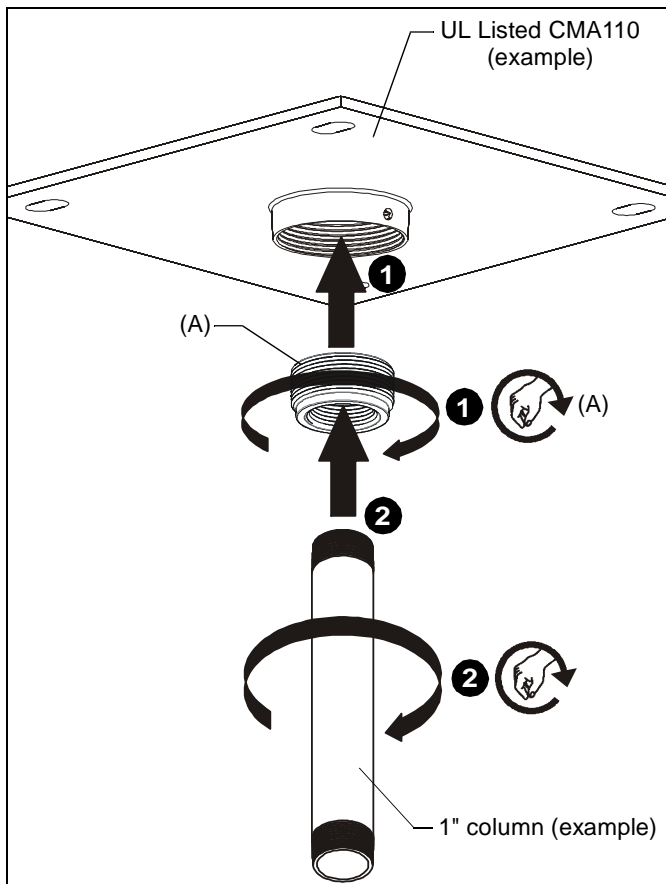

Figure 1
1. Thread CMA151 (A) into 1-1/2" NPT threaded column or ceiling plate by hand with a minimum of four threads engaged. (See Figure 1)
2. Thread 1" NPT or NPSM following ANSI/ASME B1.20.1 (Schedule 40, 0.154" minimum thickness steel or aluminum - ASTM B221) threaded column into CMA151 (A) by hand with a minimum of four threads engaged. (See Figure 1)